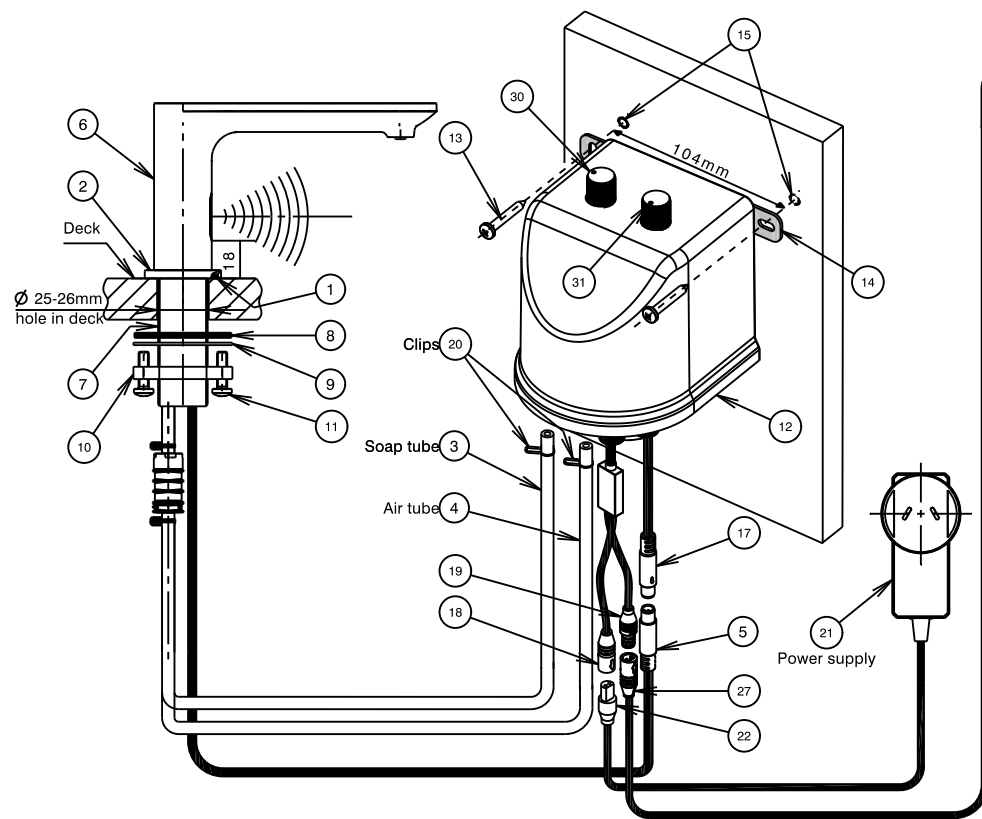
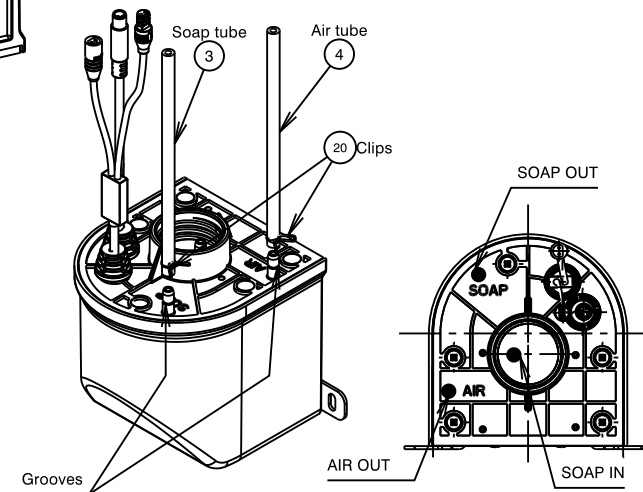

Fig. 2 - Sensor unit installation
Fig. 5
- 1) Ensure 'O'ring (1) is fitted into groove in base ring (2).
- 2) Insert the soap tube (3), air tube (4) and sensor cable (5) through the hole of base ring (2). Pass base ring (2) through threaded tube (7) until the base ring (2) sits against bottom of sensor body (6).
- 3) Insert soap tube (3), air tube (4) and sensor cable (5) through the hole in the deck. Insert threaded tube (7) into deck hole, orientate sensor body as required. From under the deck, Insert soap tube (3), air tube (4) and sensor cable (5) through flat seal (8), washer (9) and clamp ring (10) in order, then fit flat seal (8) followed by washer (9) over threaded tube (7) as shown in Fig. 2. Screw clamp ring (10) onto threaded tube (7) until it contacts washer (9) & the flat seal (8) has contacted the underside of the deck. Tighten two screws (11) equally until sensor assembly is clamped firmly to the deck. DO NOT OVERTIGHTEN.
##### **a) Soap tube and air tube connections, (Fig. 2 & Fig. 5):**
##### **b) Sensor cable connection, (Fig. 2):**
By aligning the profile of connectors (5) & (17), connect the sensor cable (5) from the outlet to the end of sensor cable (17) of soap control unit as shown in Fig. 2.
While aligning the 'D' profile of male and female connectors Connect male connector of power cable (22) to female connector (18) of soap control unit (12) as shown in Fig. 2. Connect male connector (19) from control unit (12) to female connector (27) of battery box (26). Ensure all cable connectors are pushed in fully.